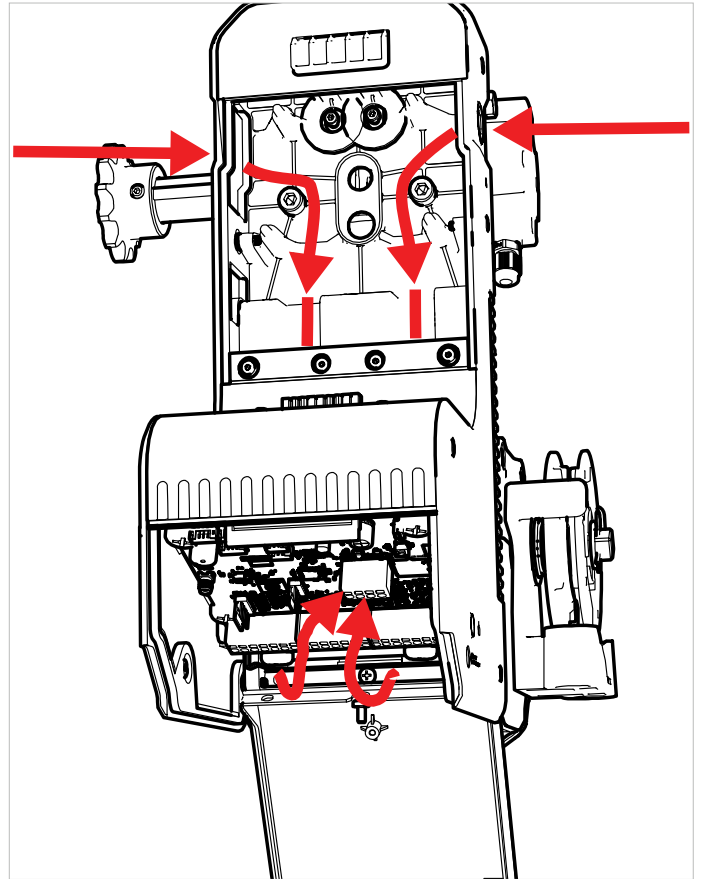

Fig:22
- Choose the best approach and side of entry into the operator for wiring. To minimise risk of entangling cables with the DAVE's drive mechanism, this will be the opposite side to the drive shaft and door in most circumstances. Wiring punch-outs are located on both sides, as shown in Fig:22. Remove punch-out on your chosen side.